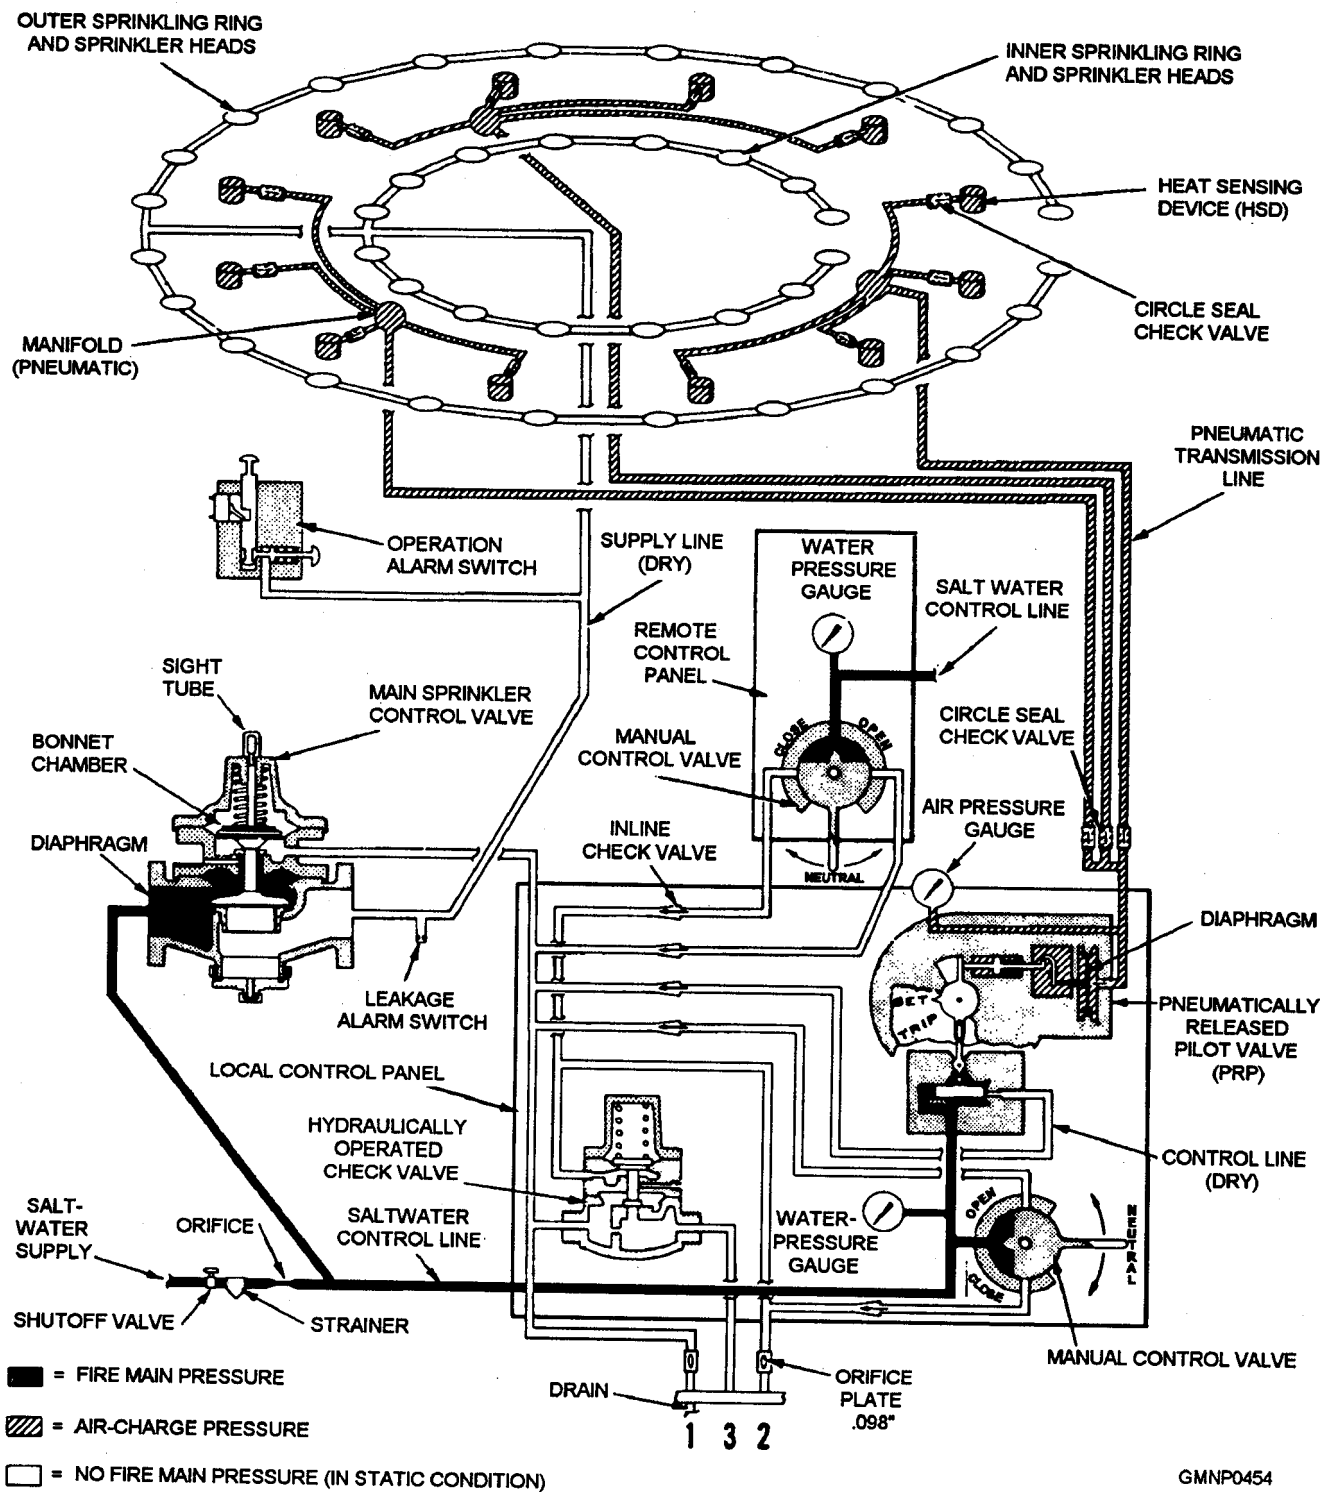

Figure 8-28.—Dry-type sprinkler system schematic; in static condition.
Figure 8-28 is a general schematic arrangement of the major sprinkler components. Take a moment to study it, as we will refer to it frequently. Locate the four equipment areas.
The components of the hydraulic control system are located on the local and remote control panels. (See fig. 8-28.) Various manual shutoff valves and strainers are used in the system. They isolate certain components during maintenance procedures and filter marine growth in the saltwater supply. Most of the valves are manufactured by the Cla-Val Company and are known by their Cla-Val designation.
**INLINE CHECK VALVES.**— Four inline check valves, designated Cla-Val No. 81M, are located on the local control board. (See fig. 8-28.) They are spring-loaded check valves that open wide when salt water flows in the proper direction (with the arrow). They close tight when salt water flows against the arrow. By preventing backflow to other stations, these check valves permit the sprinkler system to be activated from more than one station.
**HYDRAULICALLY OPERATED CHECK VALVE.**— The hydraulically operated check valve is designated Cla-Val No. 81PM-1 (fig. 8-28). It is a normally closed, globe-type check valve that becomes functional only during the stop cycle of sprinkler operation.
**DRAINS AND ORIFICES.**— The hydraulic control system has three drain lines and two orifice restrictions (fig. 8-28). The drain lines are normally located so that they can discharge into a portable container (bucket). The lines should be numbered and tagged so that they can be quickly identified.
Two water-activated switches serve as the alarm portion of the system. Both units are located on the dry or downstream side of the main sprinkler control valve. (See fig. 8-28.)
The operation alarm or flow alarm switch is installed farther downstream from the main valve. (See fig. 8-28.) When the system is activated, fire main pressure actuates this switch to set off other FH alarms in DC central.
Refer to figure 8-28 as we describe a remote START and a remote STOP sprinkler operation. At the remote control station, the lead-wire seal is broken and the locking key removed. The handle and lever of the valve are squeezed together and turned to the START position. (When the locking pin engages its recess hole, you can let goof the handle.) Fire main control pressure flows through one of the inline check valves on the local board. (Trace the water flow on the figure.)
The other operational possibilities will not be described in detail. The major steps for two such sequences are listed below. Refer to figure 8-28 as you run the cycles.